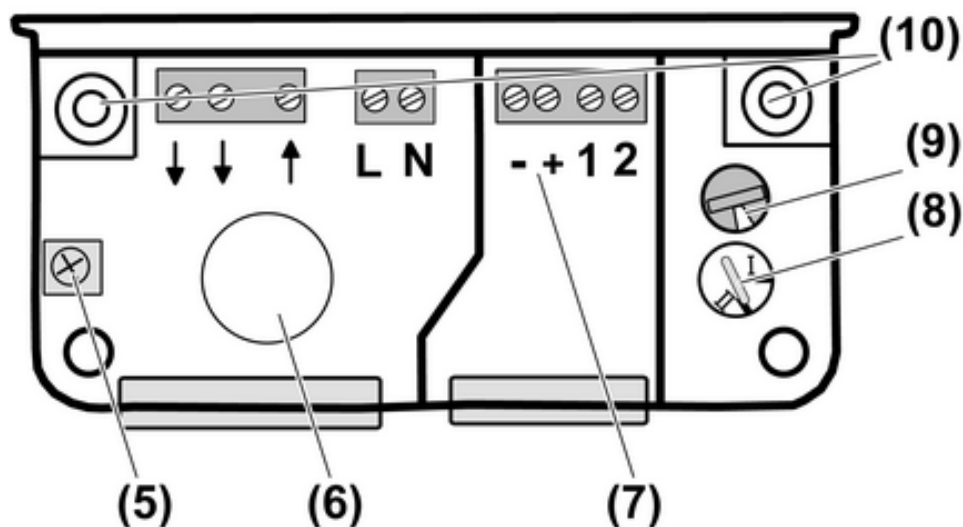

Figure 3: Wind sensor interface connection compartment
- Remove the housing lid of the wind sensor interface by slackening the two screws (3).
- For rear cable insertion, penetrate the rubber seal (6) and insert the cable (Figure 3).
- Turn the rotary switch to the (8) to the II position, factory setting (Figure 3).